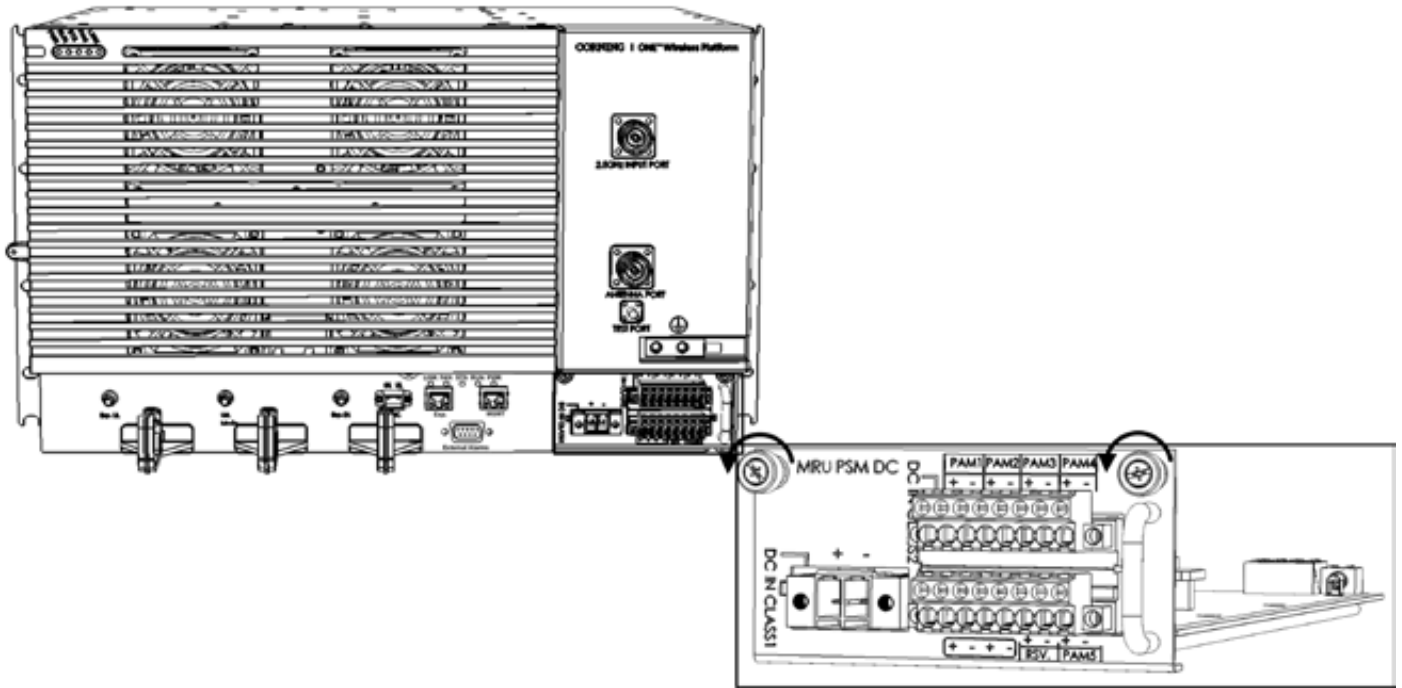

Figure 6-10. Extracting PSM from Chassis
1. Loosen PSM captive screws and pull out module from chassis. See Figure 6-10.